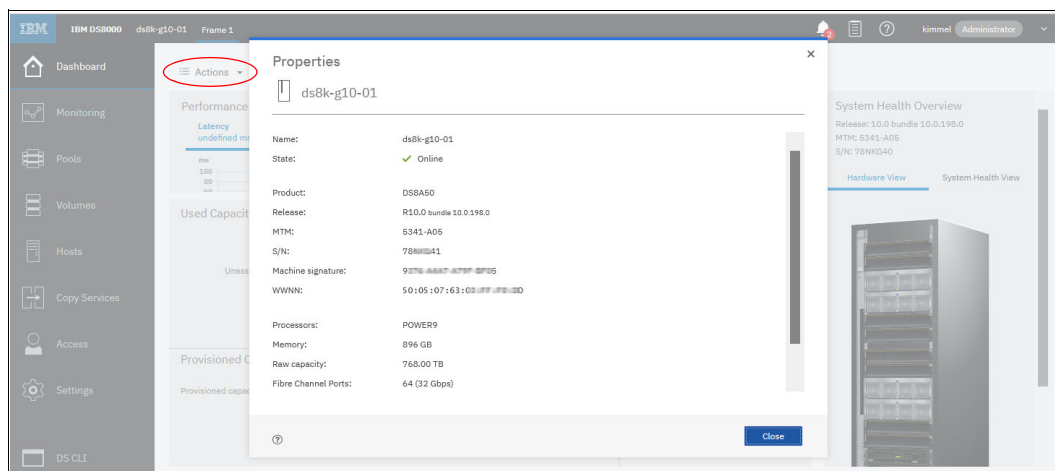

Figure 7-9 Properties window showing the machine signature and MTM
11. To obtain the machine signature and machine type and model (MTM) after the installation, go to the Dashboard and click **Actions** → **Properties**, as shown in Figure 7-9.